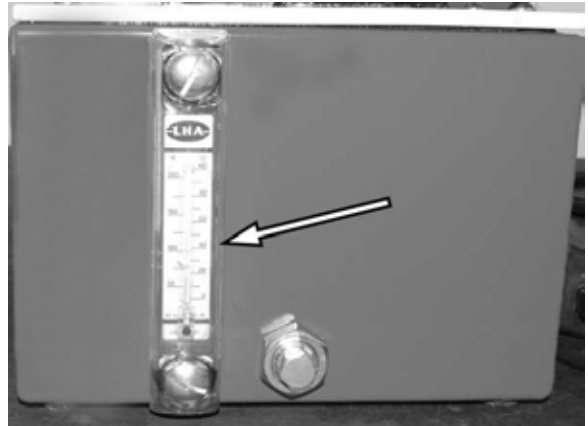

Figure 55.
2. See Figure 55. Remove the two screws and the thermometer.